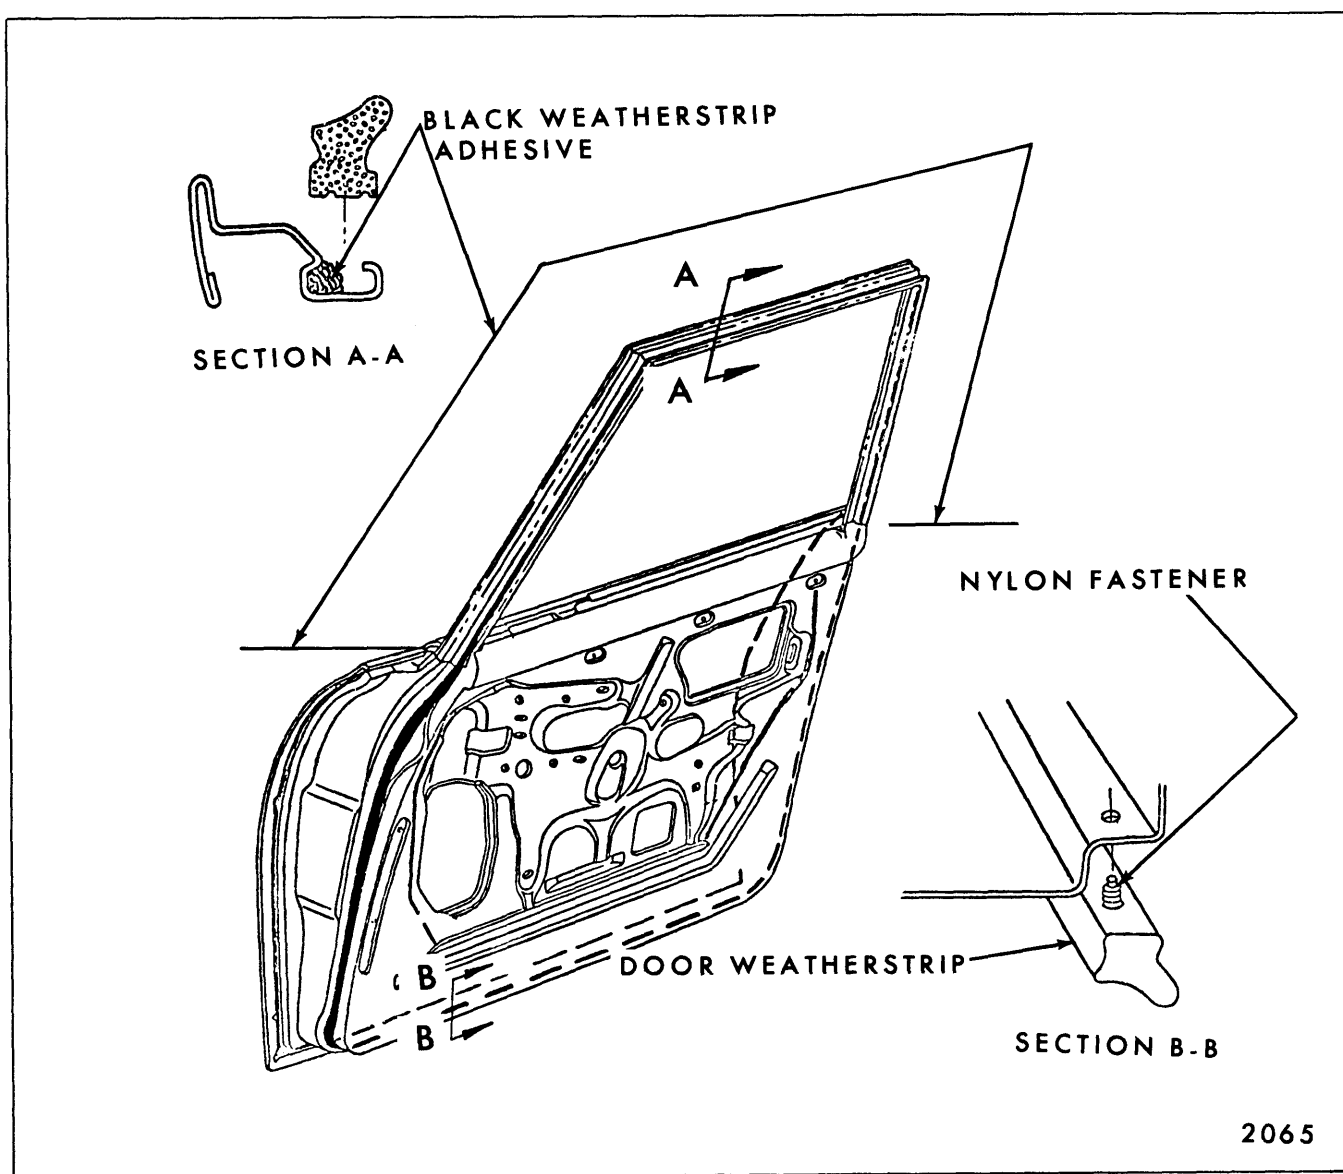
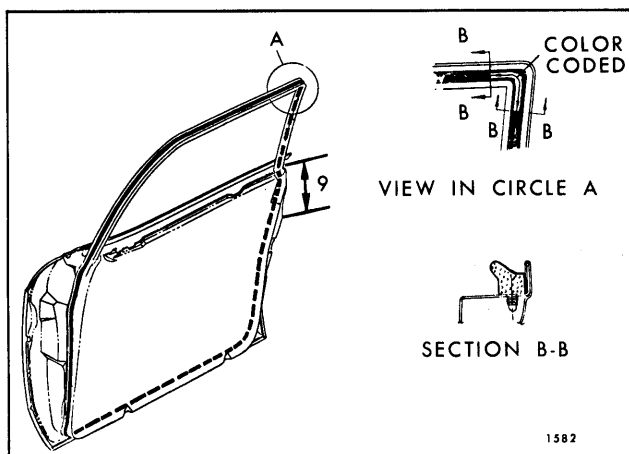

Fig. 6-2—Door Weatherstrip - "A & X" Closed Styles
Fig. 6-4—Front Door Weatherstrip - "B" Closed Styles
On "B" Body Sedan Styles, nylon fasteners are used around the entire perimeter of the door. On "A & X" Closed Styles, nylon fasteners are used below the belt line only. Weatherstrip adhesive retains the weatherstrip around the door upper frame above the beltline (Fig. 6-2).
sive is used for a distance of 9" at beltline (See Fig. 6-4). On "A & X" sedan styles, weatherstrip is retained by weatherstrip adhesive completely around door upper frame (See Fig. 6-2).
- a. On front doors, locate weatherstrip from rear upper corner which is color-coded (Fig. 6-4).
6. On "A & X" Sedan Styles, apply a bead of black weatherstrip adhesive to gutter of door upper frame as shown in section "A-A", Figure 6-2; then, install weatherstrip.
- a. For 5" around rear upper corner of front door upper frame (Circle "A", Figure 6-4) and 9" down door lock pillar starting at beltline.